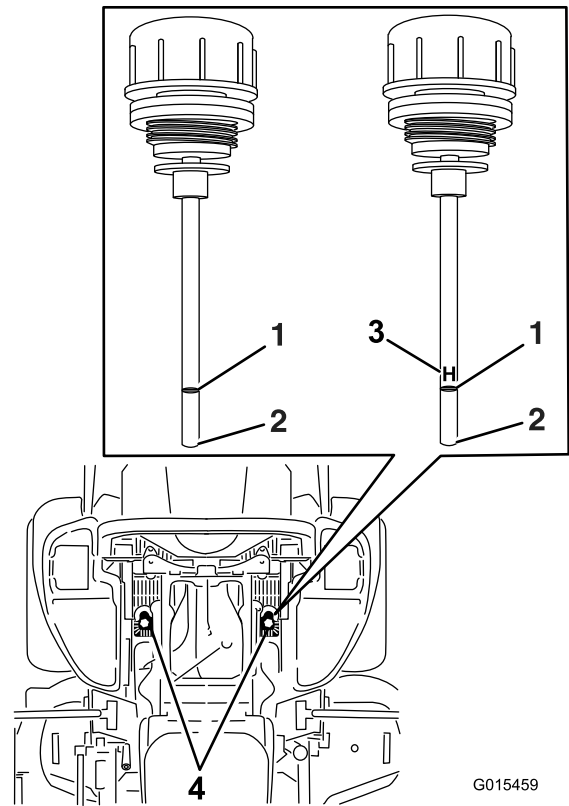

Figure 79
6. Clean the area around the dipsticks of the hydraulic system reservoirs (Figure 79).
7. Remove one dipstick from the hydraulic reservoir (Figure 79).
9. Remove the dipstick and look at the end (Figure 79).